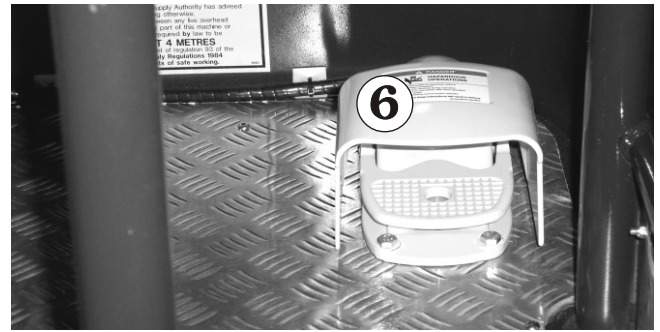

Figure 11.3
6. Step on the platform foot switch ⑥ (see Figure 11.3).